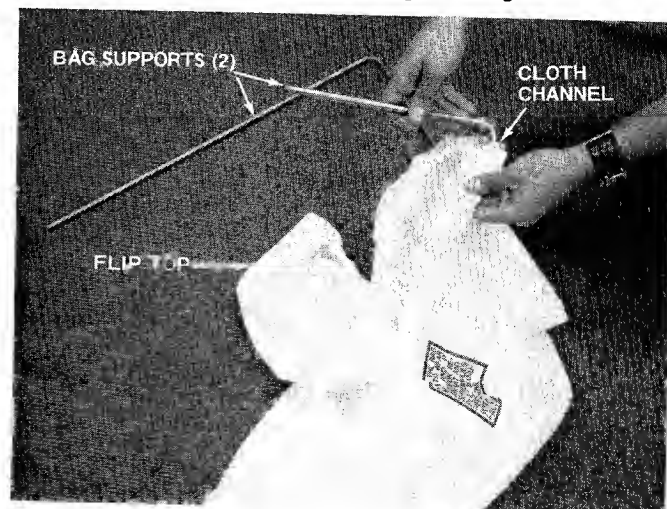

FIGURE 1
1. Place the bag (3) so (flip top) is up.
2. Feed both bag supports (2) through the cloth channel in the top of the bag. See figure 1.